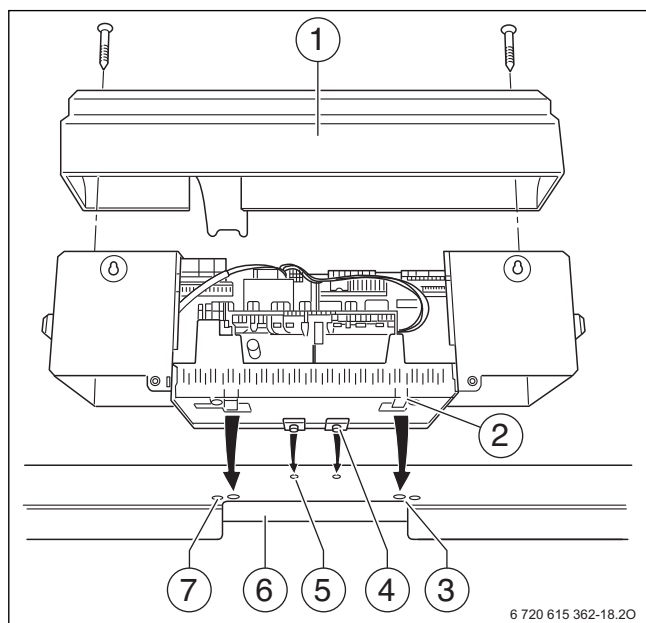
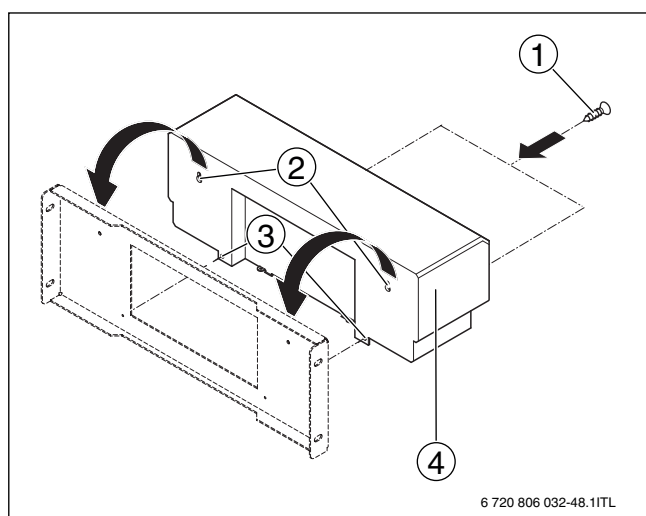

Fig. 22 Fitting the control unit for boiler sizes 120 kW to 820 kW
Fig. 23 Fitting the control unit for boiler sizes 1040 kW to 1850 kW
In Fig. 22, the control unit (without rear panel) and the control unit holder [1] are shown from the rear.
In Fig. 23, page 21, the control unit is shown from the rear.
- Undo both screws from cover [1]. Lift off cover [2] (→ Fig. 22).
- Remove both plugs (→ Fig. 23, [2]) from the control unit.
- Place the control unit (→ Fig. 23, [4]) on the studs of the control unit holder on the side of the boiler.
- ▶ Refit the cover (→ Fig. 22 and Fig. 23, page 21) to the control unit.
- ▶ Tighten screws (Fig. 22, page 21 and Fig. 23, page 21) to secure the control unit cover hood.